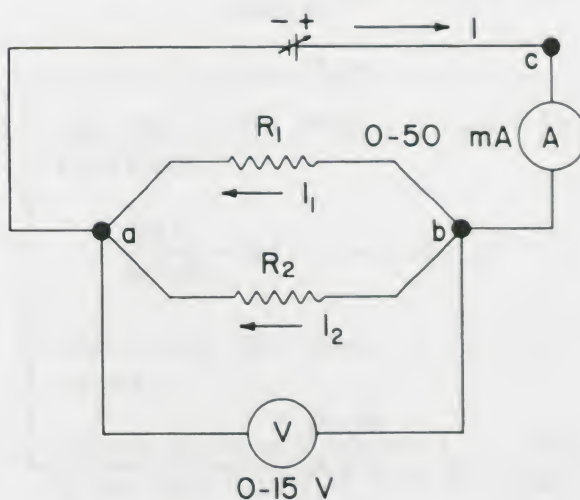

Figure 30.
1. Wire the circuit shown in Figure 30. The resistors  $R_1$  and  $R_2$  are said to be connected "in parallel" which means "one next to the other," each carrying part of the current. The circuit is thus divided into *branches*, one branch which contains the resistor  $R_1$ , the other the resistor  $R_2$ . (Suggested values:  $R_1 = 500\ \Omega$ ,  $R_2 = 1000\ \Omega$ .) Hook up the voltmeter to points  $a$  and  $b$ . Turn up the power supply until one of the meters reads full-scale. Keep the power supply setting fixed to this value.